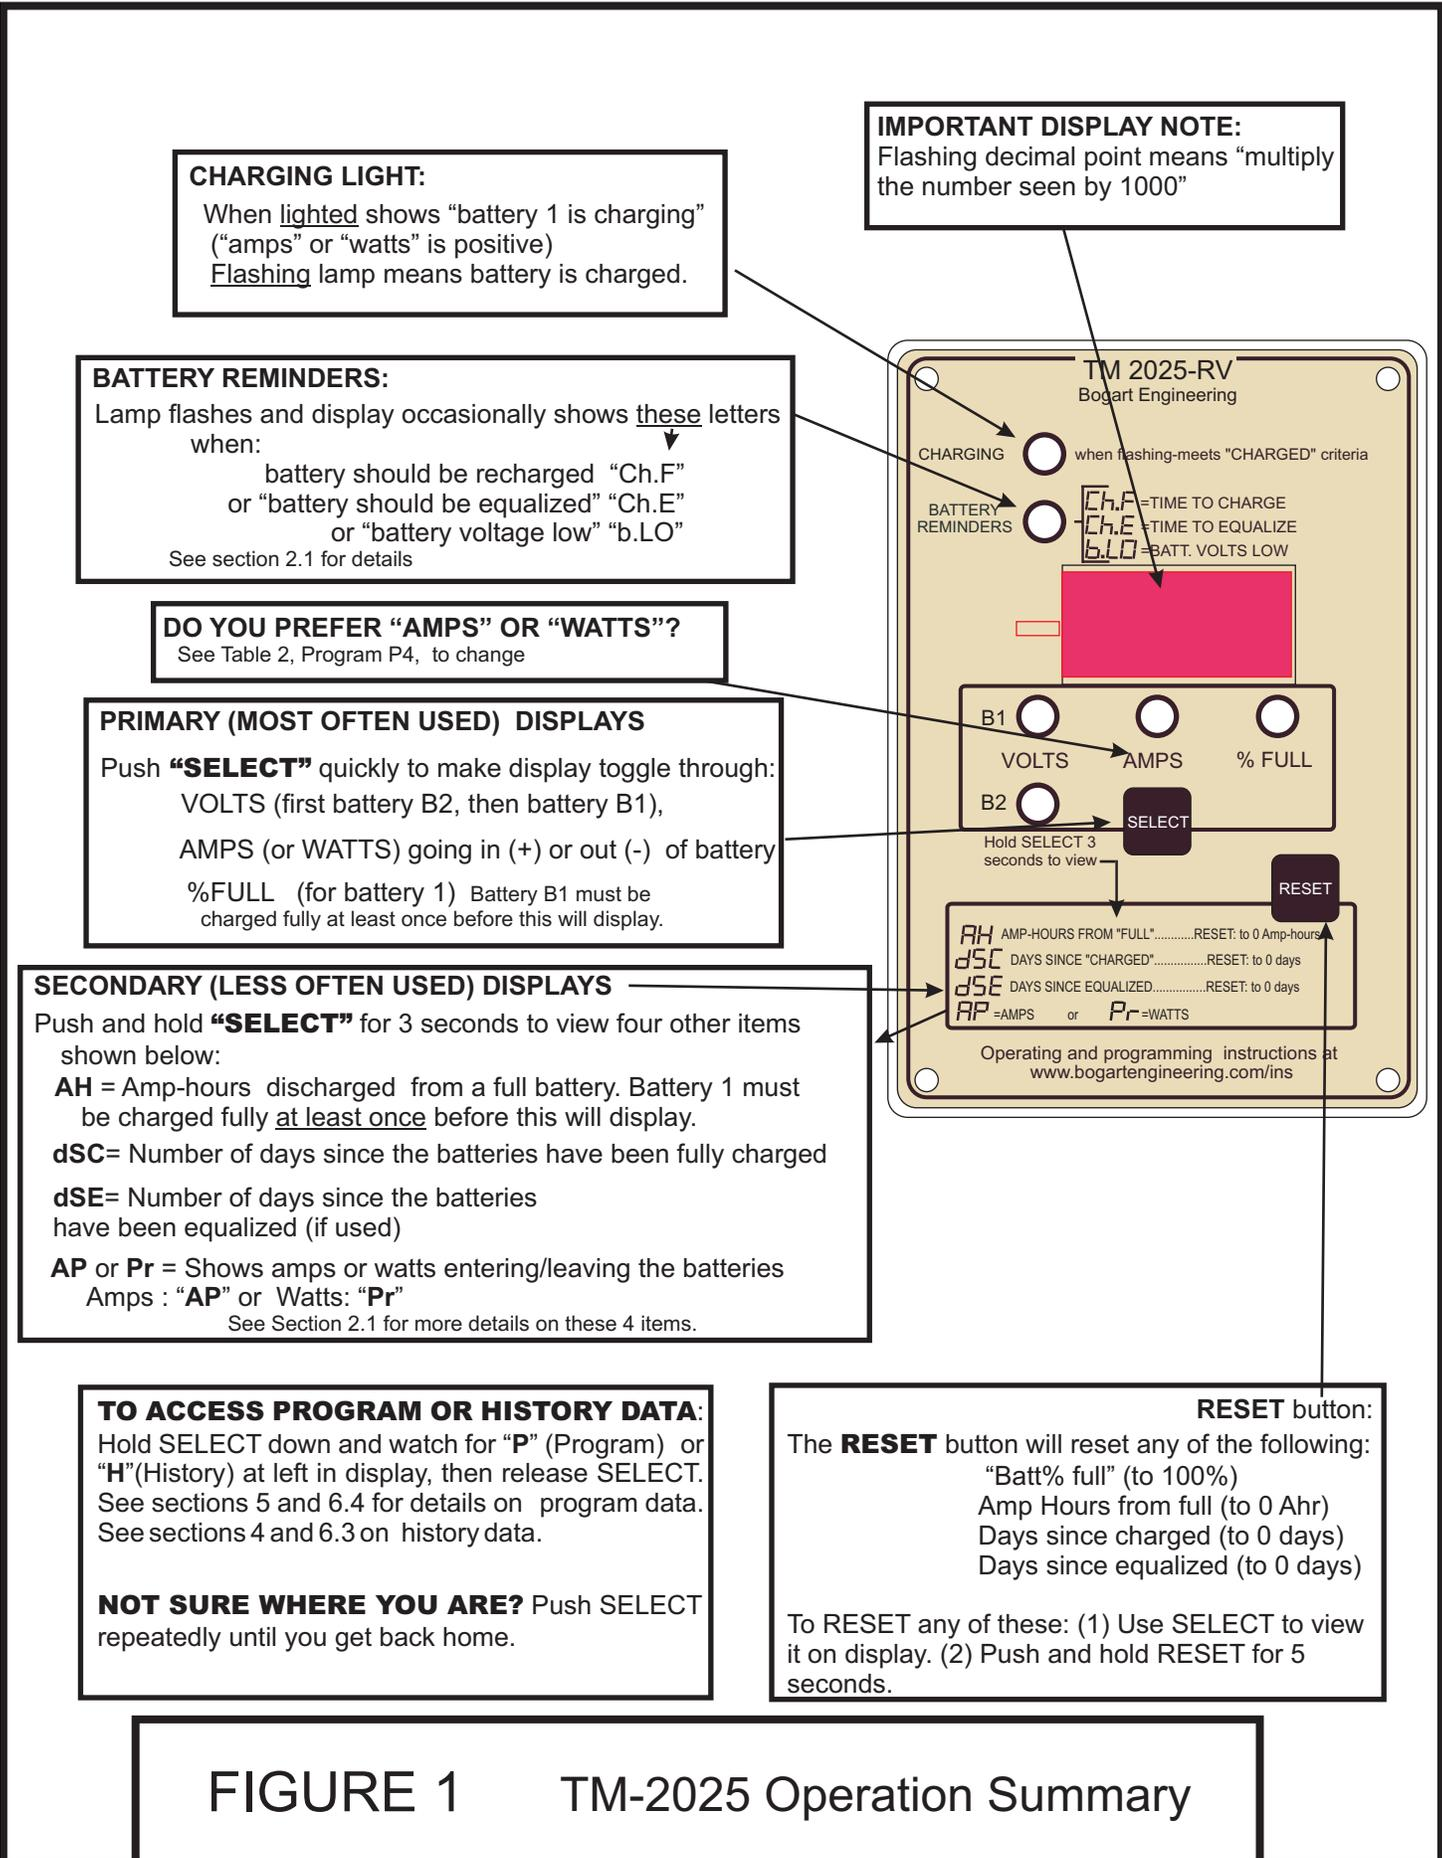

FIGURE 1 TM-2025 Operation Summary
2. Basic instructions for Operating Level L1: Refer to figure 1 which covers basic operation. It also has references for further information.
dSE Days since the battery was equalized. “Equalization” refers to occasionally overcharging a battery to help it maintain its capacity. It is usually recommended only for liquid electrolyte lead acid batteries, not AGM or Gel types. This display is intended to remind you when to equalize your batteries if this is not done automatically by your charging system. It is essentially just a manual timer, that reads in DAYS, so that you can see how long it has been since your batteries were equalized. Each day when not reset it will advance by 1.00 day. Then it must be MANUALLY RESET by you when you take action to equalize the batteries. For how to reset this, refer to Figure 1, in reference to the RESET button.
2.2.2. “Ch.E” (Charge Equalize) Reminder to equalize batteries occasionally, (typically monthly) if recommended by the battery manufacturer. Equalization refers to an occasional overcharge which is recommended by manufacturers of “liquid electrolyte” batteries (the ones with watering holes on top.) It is not ordinarily recommended for AGM or Gel type (VRLA) batteries. If you have liquid electrolyte batteries, and if you need to manually equalize, you can choose the equalization reminder interval (for example, once every 30 days) to flash “Ch.E” in the display after this interval. This feature is intended to remind you to equalize at regular intervals if equalization is not accomplished automatically by your charger or charge controller. Then, after you accomplish equalization you must manually reset the “Days since equalize” number as described in figure 1, by the RESET button. More information about equalization may be found in section 8: **Important information on how to keep from killing your batteries.** The number of days is programmed by Program P6. (See Table 2).